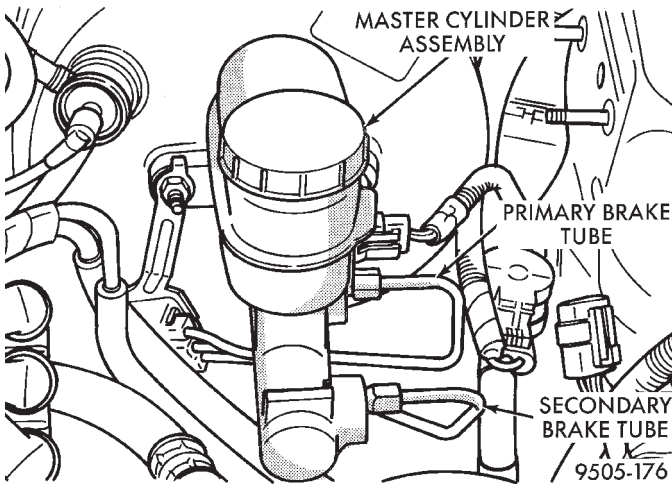
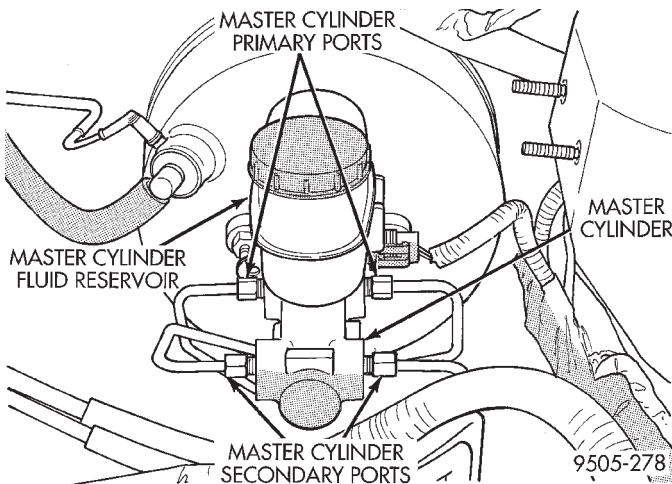

Fig. 109 Primary And Secondary Brake Tubes With Antilock Brakes
Fig. 110 Primary And Secondary Brake Tubes Without Antilock Brakes
(8) Remove the primary and secondary brake tubes (Fig. 109) and (Fig. 110) from the master cylinder assembly.
- (10) Install the primary and secondary brake tubes (Fig. 109) and (Fig. 110) in the master cylinder